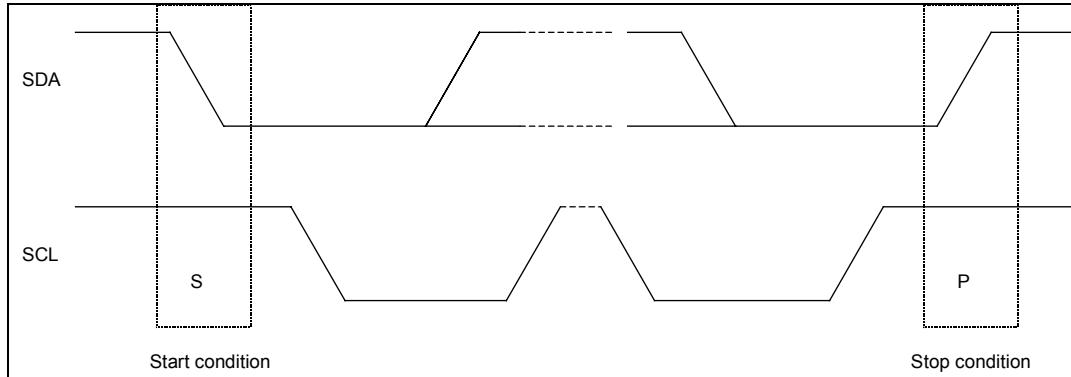

Figure 4: I²C start and stop conditions
Data transfer begins by a falling edge on SDA when SCL is at high level, this is the start condition (S), initiated by the I²C bus master. It is stopped with a rising edge on SDA and SCL at high level, this is the stop condition (P) (see Figure 4: I²C start and stop conditions).